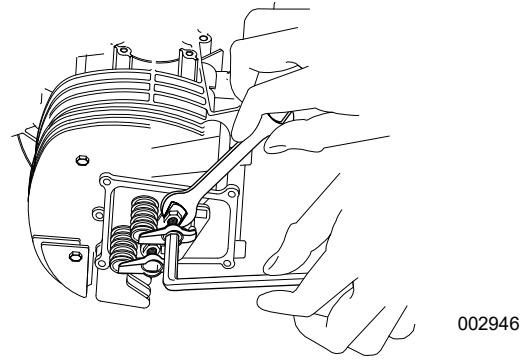

Figure 4-15. Tightening Jam Nut
2. See **Figure 4-15**. When clearance is correct, hold pivot ball stud with hex wrench and tighten rocker arm jam nut to specified torque with a crow foot wrench. After tightening jam nut, recheck valve clearance to make sure it did not change.